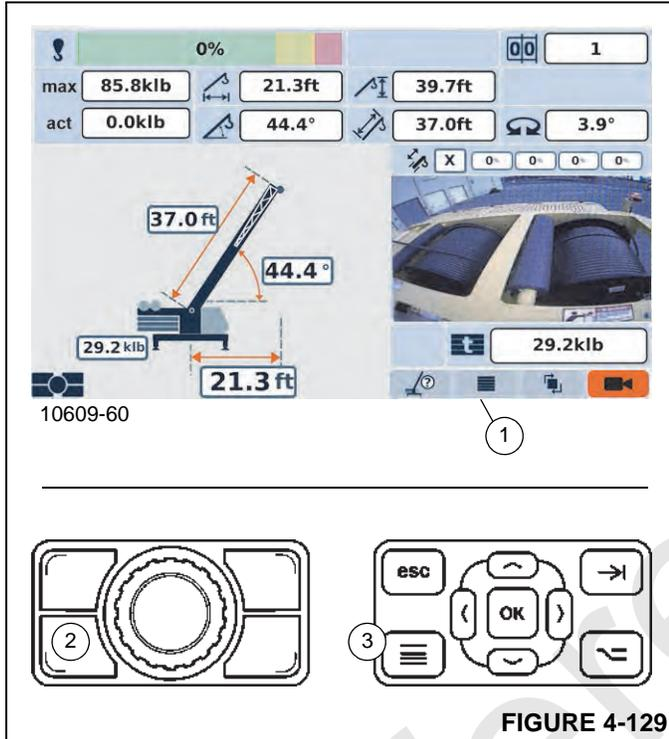

FIGURE 4-129
The full screen view of the hoist camera is enabled in the Menu Screen of the RDM. The operator can access the Menu Screen from the Monitoring Screen by selecting and confirming the Menu Icon (1 Figure 4-129), or by pressing the Menu Button at the Jog Dial (2) or at the RDM Navigation Control Pad (3).